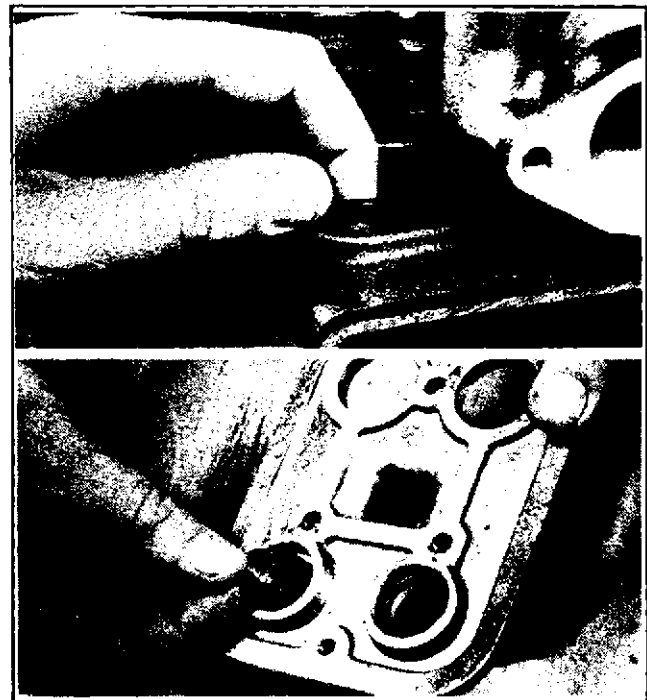

Figure 8-14. Installing Push Rod Tube "O" Rings
1. On each end of the push rod tubes there is an O-ring seal. These seals must be installed into seats in the cylinder block and rocker arm housing before the push rod tubes are installed (see Figure 8-14).